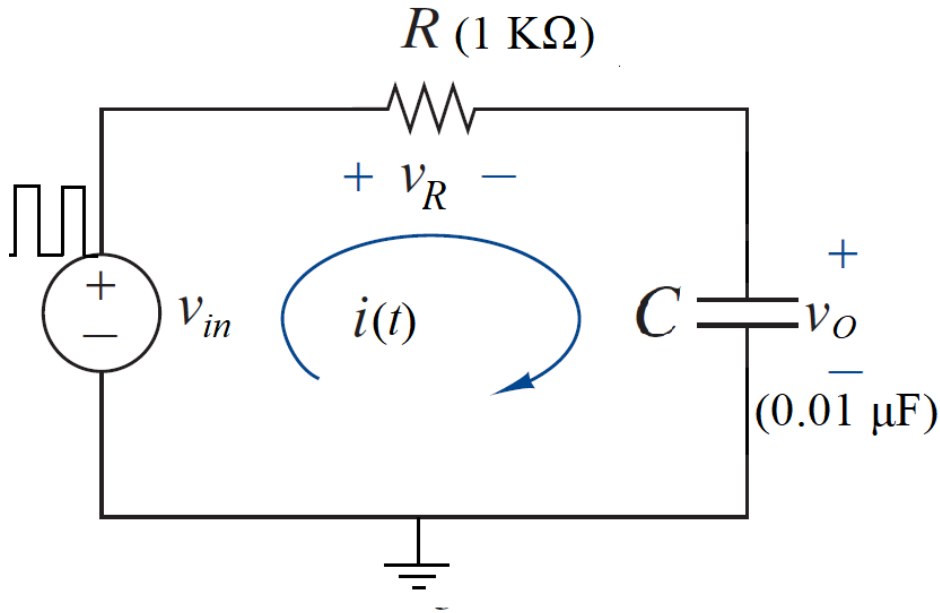

Figure 3: A series RC circuit
2. Patch the circuit given in Fig. 3 on the breadboard and apply pulse train to it.